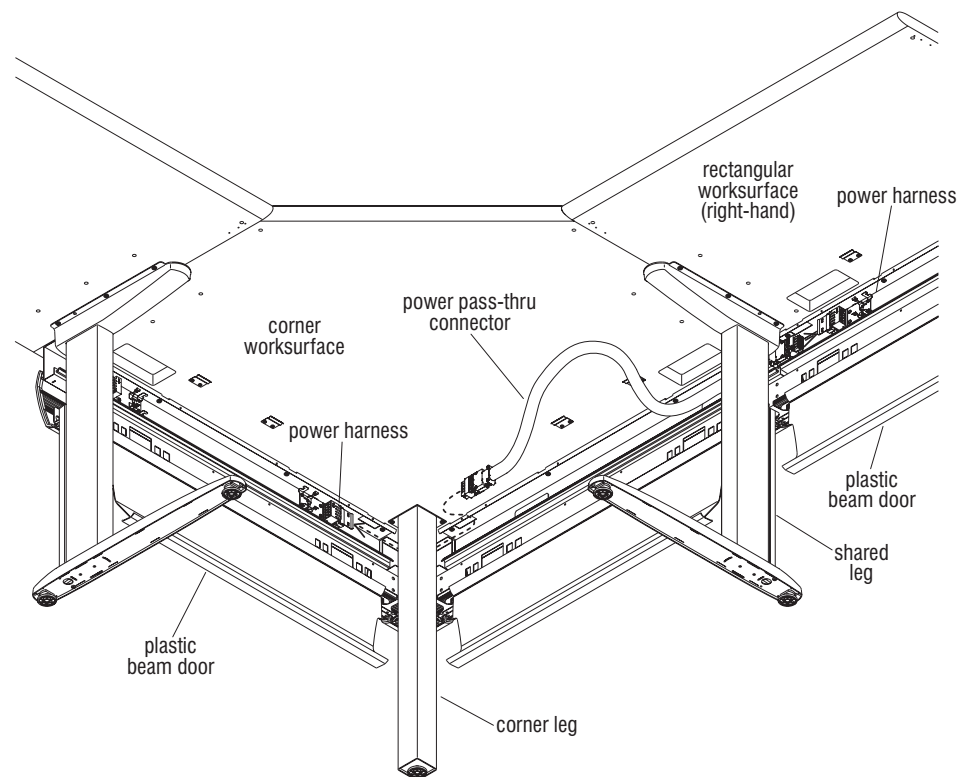

Figure 9
1. Un-clip and open plastic beam doors on each side of corner leg and under right-hand rectangular worksurface. Power harnesses are located in the beam at the left-hand side of the corner worksurface and under the right-hand rectangular worksurface (Figure 9).
2. Route the power pass-thru connector behind the corner leg and plug it into the power harness under the corner worksurface. Feed the other end of the connector behind the shared leg and plug it into the power harness under the right-hand worksurface (Figure 9).